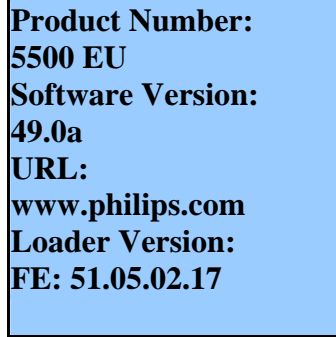

Figure 1 : Firmware Information shown by DVDR5500
- Figure 1 shows the version info displayed by DVDR5500 EU running 49.0a backend software and drive firmware is 51.05.02.17.